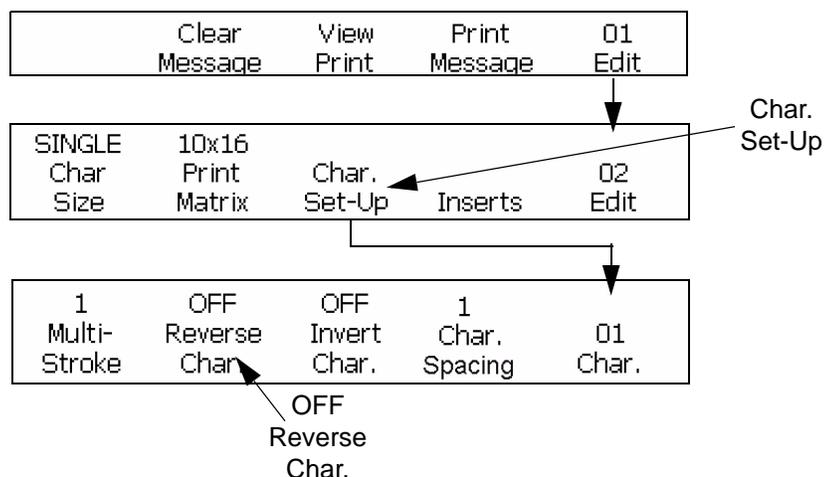

Figure 6-9: Accessing <Reverse Char>
- 2 Begin in the Frame <01 Char>. Refer to Figure 6-9 on page 6-11.